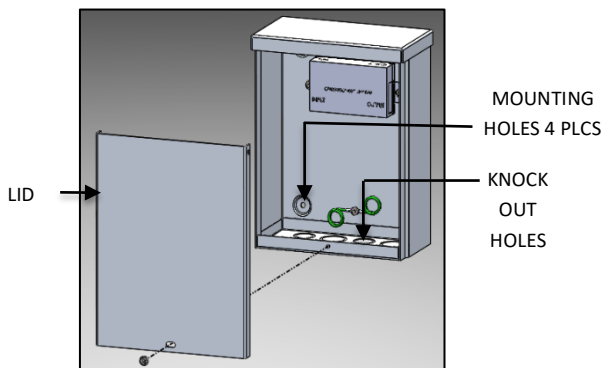
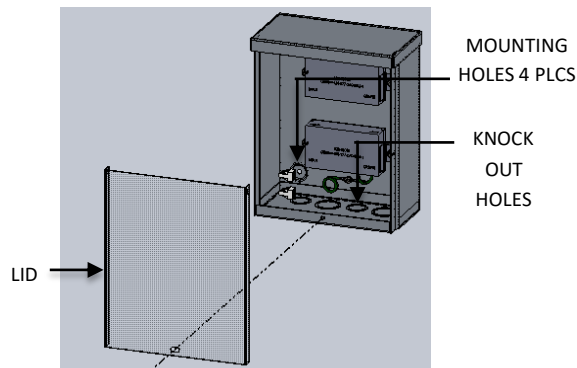

FIG. 7 – REMOTE DRIVER BOX
FIG. 8 – REMOTE DRIVER BOX
2. Remove the lid of the REMOTE DRIVER HOUSING as shown in FIG. 7 and FIG. 8 below.